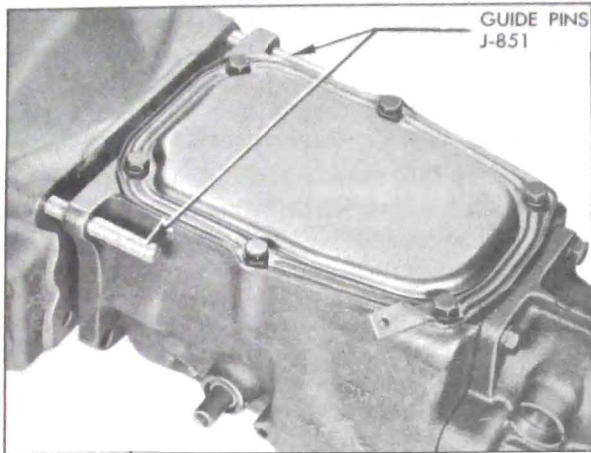

Figure 4-13—Transmission Guide Pins J-851
7. Remove the two top transmission to fly-wheel housing bolts and install Guide Pins J 851 to support transmission. See figure 4-13. Remove lower bolts, then move transmission
2. Make certain that front face of transmission case and face of flywheel housing are absolutely clean. Install Guide Pins J 851 in upper bolt holes in housing (fig. 4-13) and install a new transmission gasket. Make certain that spring washer is in place behind clutch release bearing support in housing.